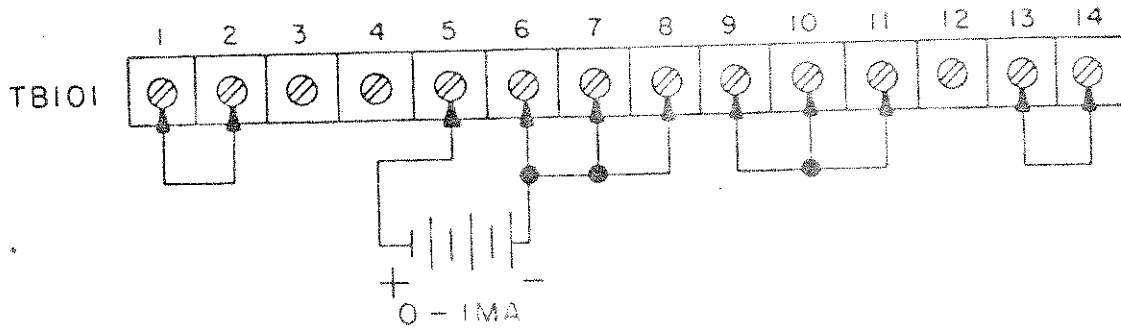

FIGURE 8. REMOTE PROGRAMMING BY EXTERNAL CURRENT, VOLTAGE MODE.
3.3.6 REMOTE PROGRAMMING BY EXTERNAL CURRENT (Figures 8 & 9)